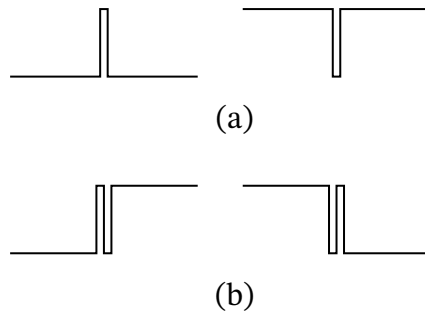

Figure 1: (a) Static hazards and (b) dynamic hazards.
9. Observe that some glitches are introduced by this change. The glitches are called hazards. Figure 1 shows two kinds of hazards: